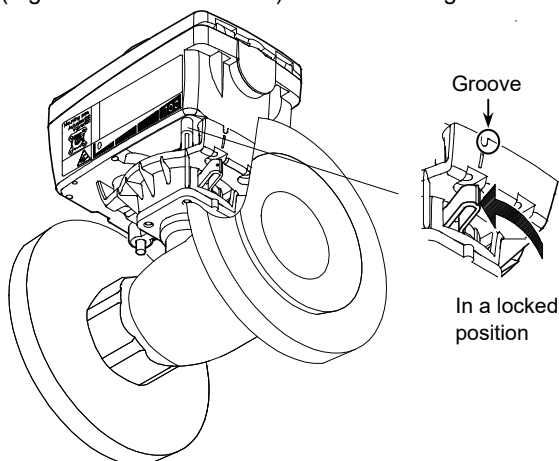

Figure 9 Locked Position
- (4) Assemble the actuator Model MY53X0A with the valve Model VY5302C. Engage the four pins of the actuator with the mating holes on the valve joint surface.
- (5) Move the lock lever to the left end (a groove as an indication) as shown in Figure 9.